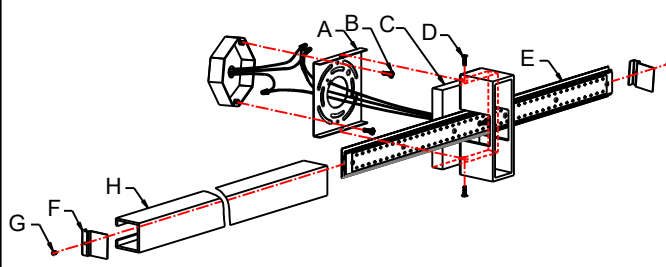

Fig. 2
CONNECTING THE WIRES (Fig.2)
4. Connect the electrical wires as shown in Fig. 2, making sure that all wire connectors are secured. If your outlet has a ground wire (green or bare copper), connect the fixture's ground wire to it. Otherwise, connect the fixture ground wire directly to the mounting plate (A) using the green screw provided.
5. Place the fixture's back plate (C) over the mounting plate (A) and secure with screws (D).